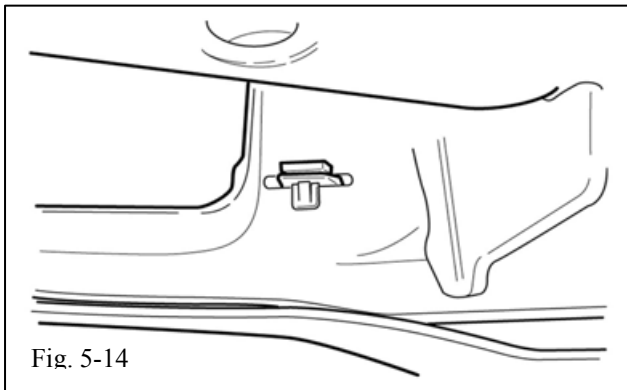

Fig. 5-14
- (q) Install the six white plastic T-clips. Be sure to install the T-clips with the spring tabs facing away from the inside of the bumper. (Fig. 5-14)